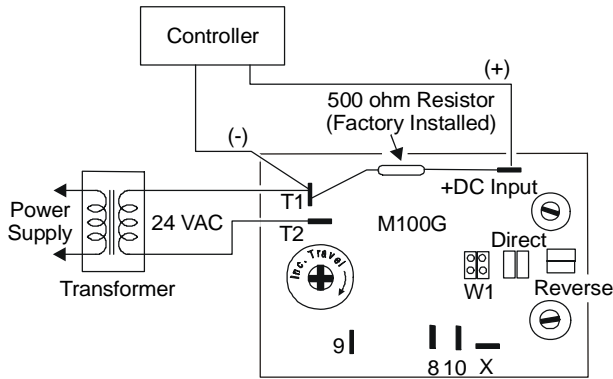

Figure 7: Typical Single Unit Wiring Diagram
3. Connect the wiring from the controller to Terminals T1 and +DC Input located in the wiring compartment. (See Figure 7.)
Travel is field adjustable from 65 to 270° by turning the travel potentiometer. (See Figure 7.) Changing the travel adjustment affects the CW limit of the actuator's rotation.
Set the actuator for the desired input, and refer to Figure 7.